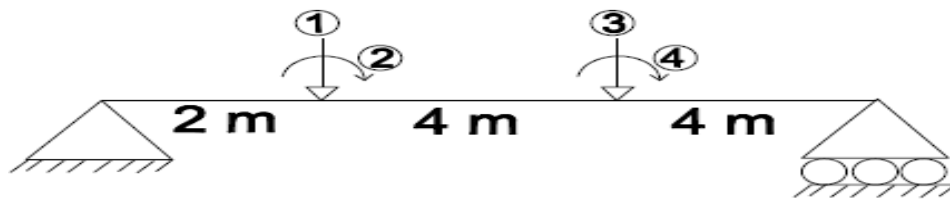

Figure 2
2. Develop the stiffness matrix for the given beam [Figure.2] with reference to the co-ordinates shown. EI is constant. [14 M]